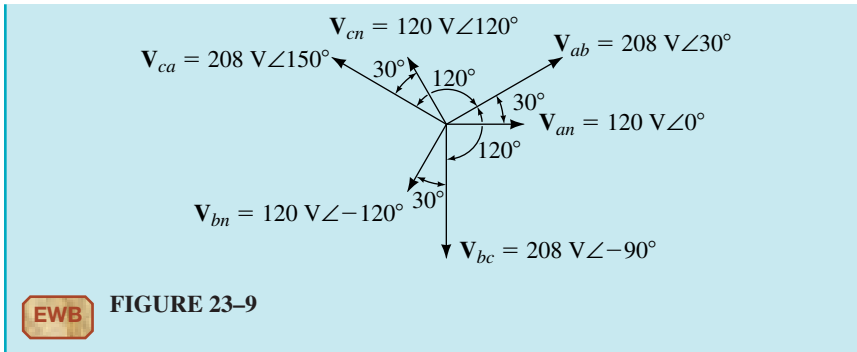

FIGURE 23-9
- c. The phasors are shown in Figure 23-9.